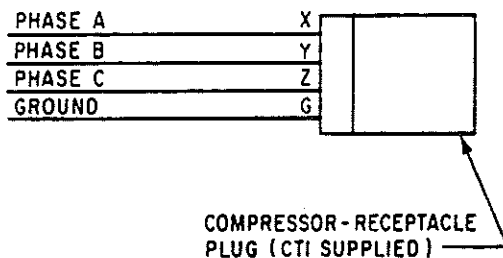

Figure 3.5 Wiring diagram for compressor-receptacle plug
- e. Insert all conductors into their proper wire entrance holes on receptacle plug face. See Figure 3.5. Check that there are no bare conductors exposed. Tighten terminal screws to 9-12 in.-lbs torque.
3. Assemble the receptacle plug by sliding the cover over the wire assembly noting key (7). Align the key on the cover to the keyway on the plug face and tighten the two assembly screws (1) to secure the cover and plug face. Alternately tighten the clamp screws (4) to 8-10 in.-lbs torque.
4. If the compressor does not start the most likely cause is that the main power input phasing is incorrect. To correct the phasing, interchange any two of the three phase wires at the compressor input power receptacle plug. See Figure 3.5, page 3-3.